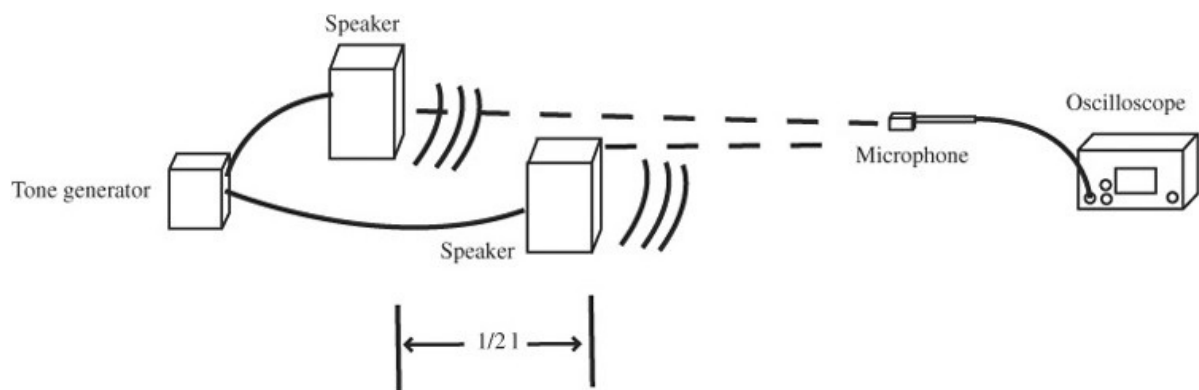

Figure 77-1 *Finding the distance between positions of maximum intensity to determine the speed of sound.*
2. Position both speakers side-by-side directed toward the microphone. At this point and throughout this measurement, each speaker should have an unobstructed line-of-sight view to the microphone, as shown in Figure 77-1.